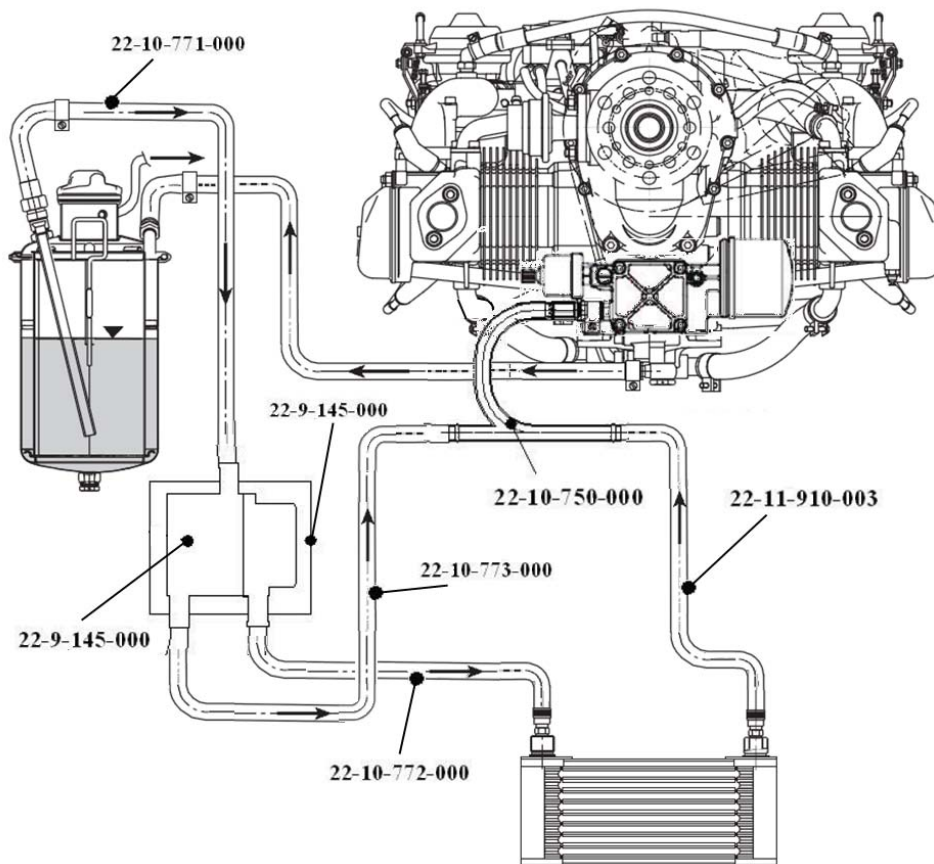

Figure 5 – Thermostatic oil valve scheme
- 9** Install the “Assy thermostatic oil valve” kit (P/N 22-10-700-000) with reference to Figure 5 and following scheme: